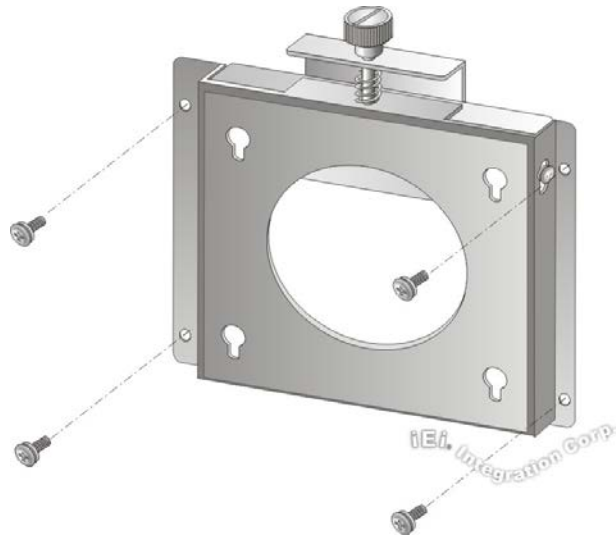

Figure 3-39: Attach Wall Mounting Kit to the Wall
- Step 1:** Attach the wall mounting kit to the mounting surface with the included screws. Make sure it is attached securely (Figure 3-39).